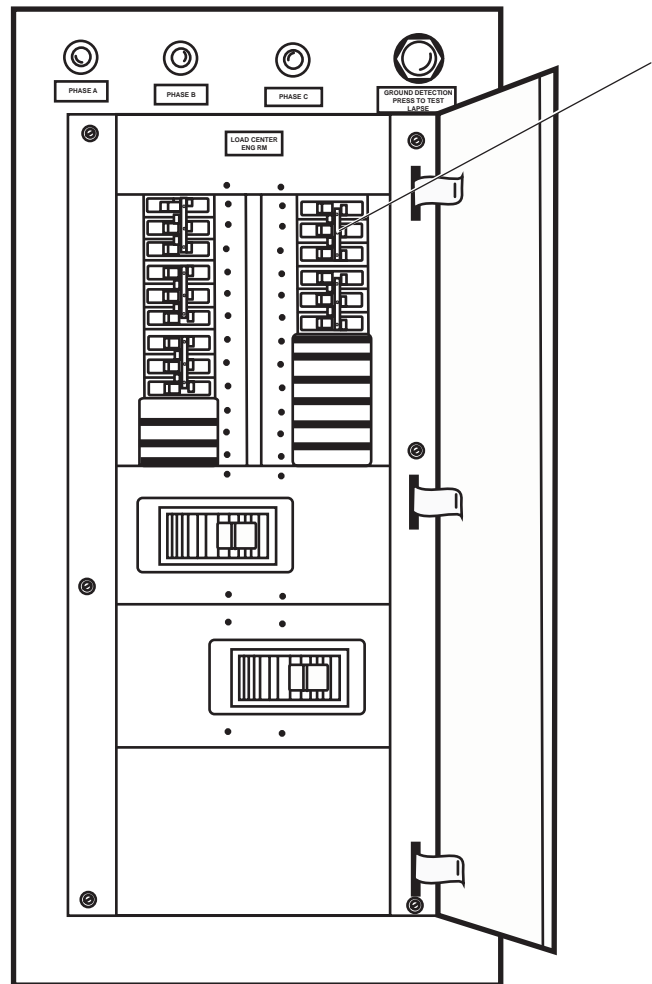

Figure 3. Load Center Distribution Panel
1. On the load center distribution panel, set the MACHINE SHOP EQUIPMENT JUNCTION BOX. (LATHE/GRINDER/DRILL PRESS). circuit breaker (figure 3, item 1) to ON.